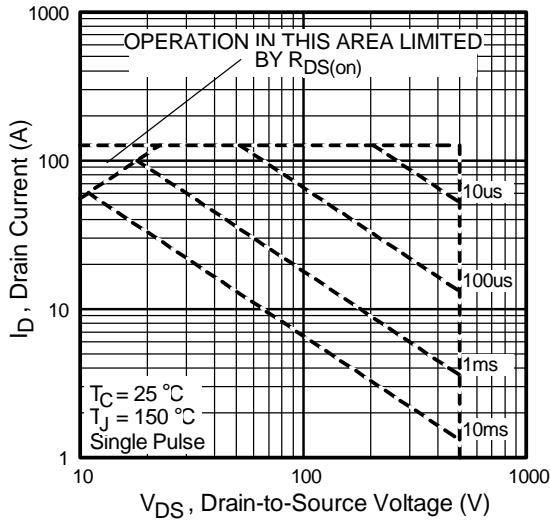

Fig 12. Maximum Safe Operating Area
- ② Starting $T_J = 25^\circ\text{C}$, $L = 1\text{mH}$, $R_G = 25\Omega$, $I_{AS} = 31A$ (See Figure 12).
- ③ $I_{SD} = 31A$, $di/dt \leq 422A/\mu s$, $V_{DD} \leq V_{(BR)DSS}$, $T_J \leq 150^\circ\text{C}$.
- ④ Pulse width $\leq 300\mu s$; duty cycle $\leq 2\%$.
- ⑤ $C_{oss \text{ eff.}}$ is a fixed capacitance that gives the same charging time as C_{oss} while V_{DS} is rising from 0 to 80% V_{DSS} .